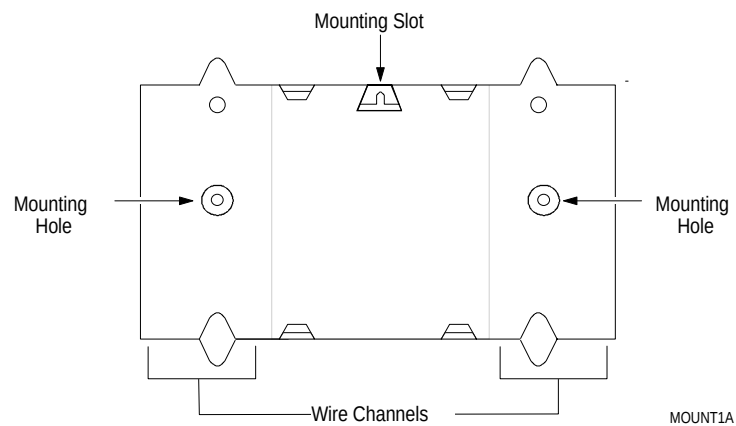

Figure 6: Bolt Locations when Mounting a Single Enclosure
2. Position the unit on the wall and mark the location of the mounting slot on the upper-most section. Each section of an enclosure has a center mounting slot and two mounting holes (Figure 6).